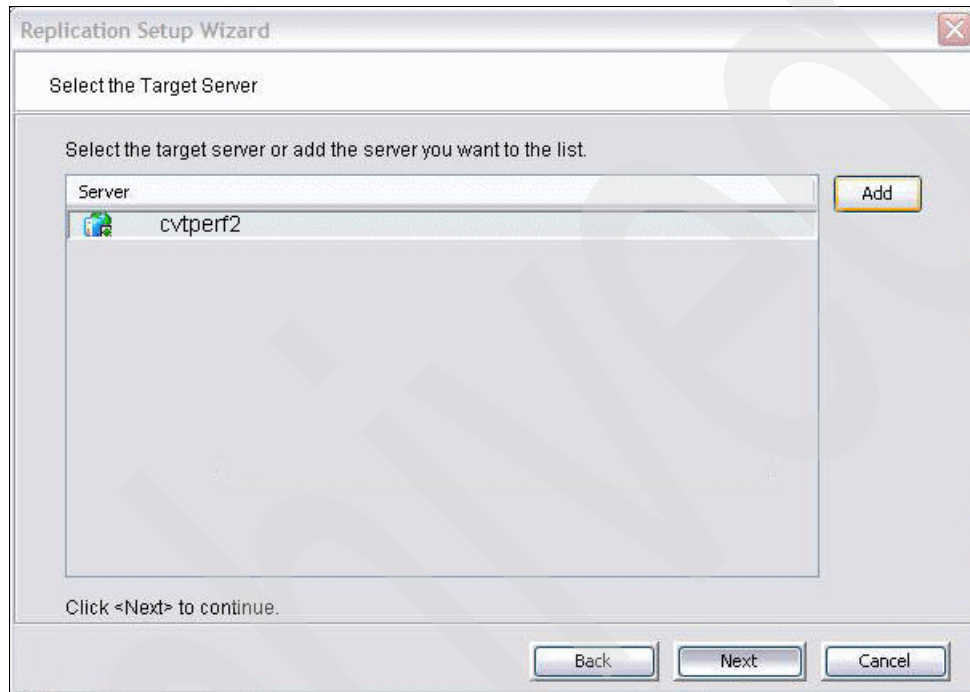

Figure 7-12 Select target server
4. Select the target server for replication on the Select the Target Server window (Figure 7-12) and click **Next**.